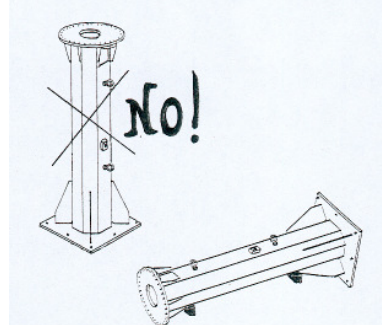

fig.9
- **All parts or components must be set down or fixed in a stable way in all phases of handling, transport and storage and they must not be tilted or laid down in a vertical position or on one side (fig.9).**